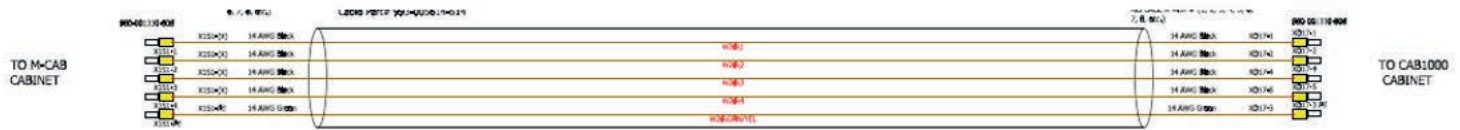
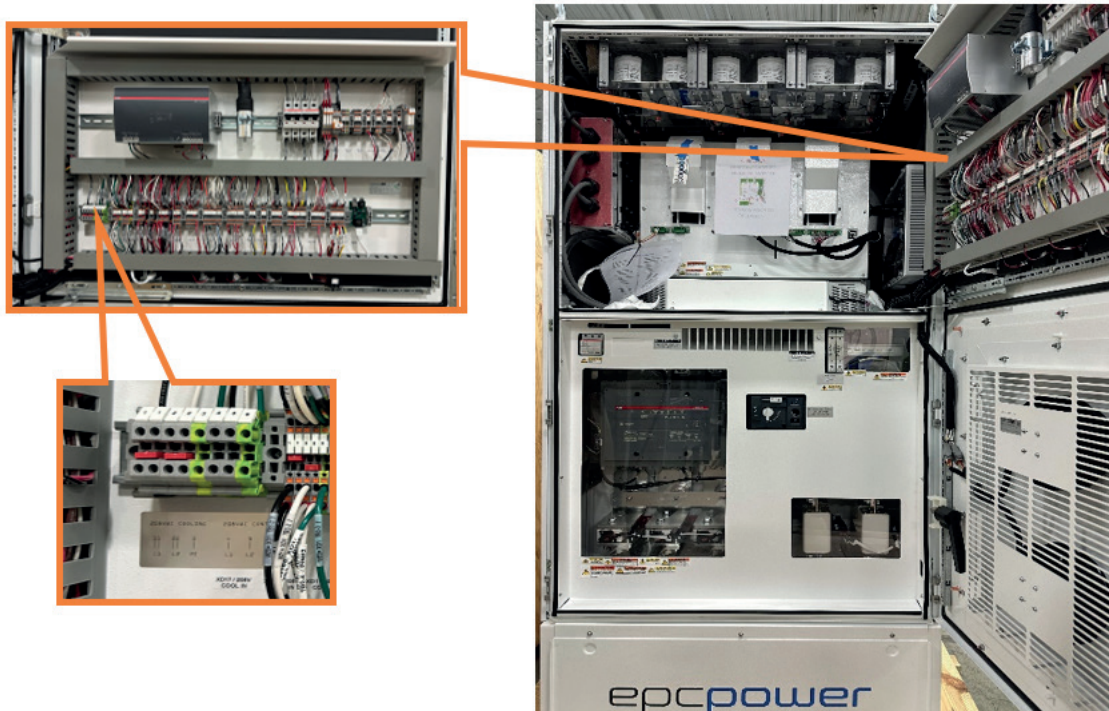
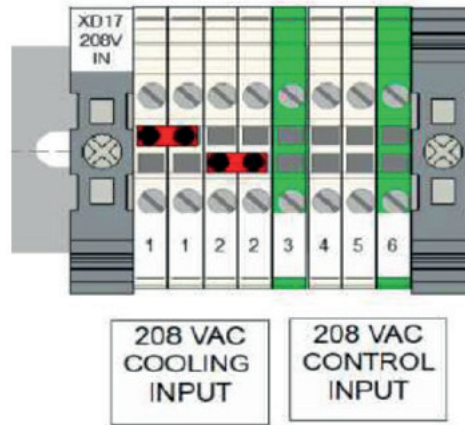
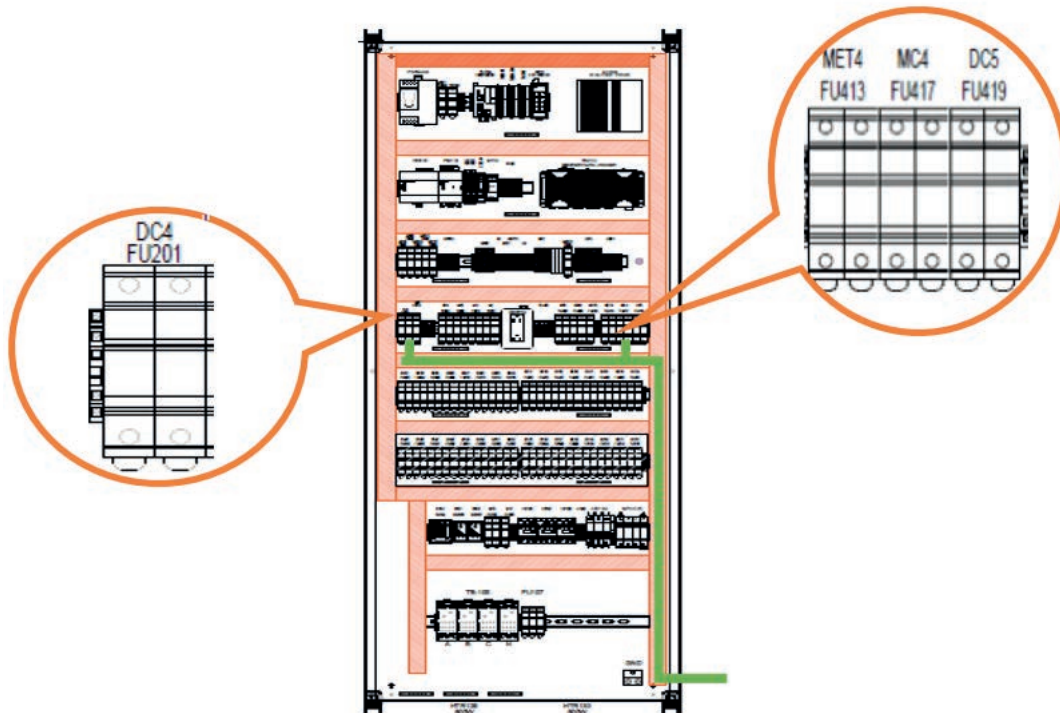

Figure 126. C-Cab XXL Auxiliary Power Cable Harness
Figure 127. C-Cab XXL Auxiliary Power Terminal Location - XD17
Figure 128. C-Cab XXL XD17 Terminal Connection
Figure 129. M-Cab XXL Location of C-Cab XXL Auxiliary Power Connection
2. Start by identifying the Auxiliary Power Cable Harnesses. The cable will be marked as “HES-XXL1M1/C-Cab XXL1-PWR” Figure 129.
- a. Then route the “HES-XXL1M1/C-Cab XXL1-PWR” Figure 126 cable harness along the right side of the C-Cab XXL through the gromet shown on Figure 127 and up to the control part of the C-Cab XXL.
- d. As aid for the location reference use Figure 128 and Figure 129 as a guide.
4. The other end of “HES-XXL1M1/C-Cab XXL1-PWR” Figure 129 cable harness needs to be routed through the bottom of the M-Cab XXL.
- a. Route the cable harness as per Figure 129.
3. Once the cable has been identified, the cable needs to be routed as shown in Figure 127 and Figure 128 behind the high voltage dead front. The routing should avoid contact with the high voltage cables.
- a. Then route the “HES-XXL1M1/C-Cab XXL1-CNL” cable harness along the right side of the C-Cab XXL through the gromet shown on Figure 127 and up to the control part of the C-Cab XXL.
- a. Then route the “HES-XXL1M1/C-Cab XXL1-CAN” cable harness along the right side of the C-Cab XXL through the gromet shown on Figure 127 and up to the control part of the C-Cab XXL.
- b. Once in the cable is in the control portion of the cabinet using the path outlined in Figure 128 to terminal block XD23 located near XD25.
2. Once the cable has been identified, the cable needs to be routed as shown in Figure 127 and Figure 128 behind the high voltage dead front. The routing should avoid contact with the high voltage cables. The cable can be routed along the same path as the E-Stop Cable, Auxiliary Power Cable harness, and CAN Cable harness.
- a. Then route the “HES-XXL1M1/C-Cab XXL1-MB” cable harness along the right side of the C-Cab XXL through the gromet shown on Figure 127 and up to the control part of the C-Cab XXL.